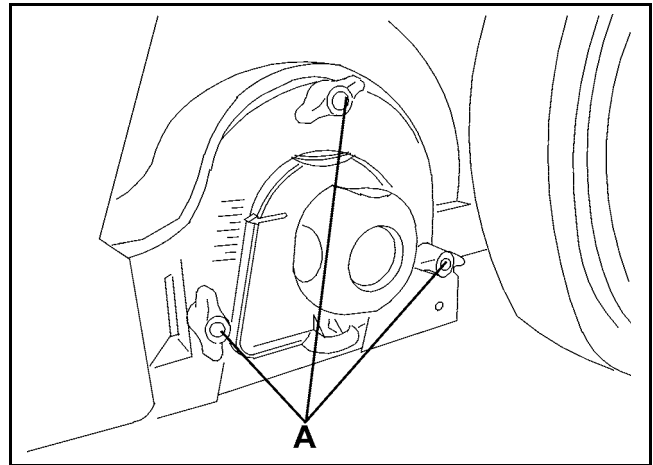

Figure 13
4. On the left side of the machine, loosen the handwheels (A, Fig. 13) completely.